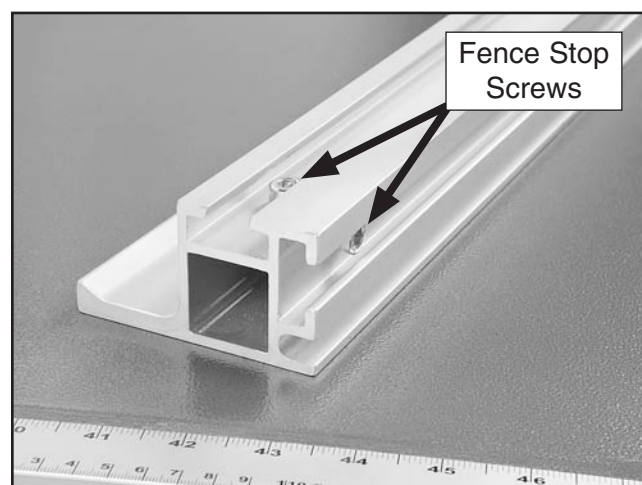

Figure 35. Rip fence stop screws.
37. Remove the rip fence stop screw from the tall side of the rip fence (see **Figure 35**).